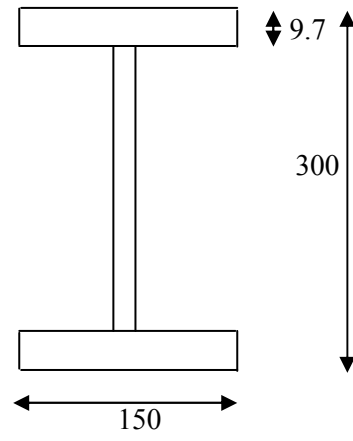

Figure 10
- Q.5 (a)** The vertical shear action on a channel section is 150 KN. Find the shear flow and shear center of the section as shown in figure 10. Assume thickness in flange as 9.7 mm and thickness of web 6.7 mm. $I = 71.97 \times 10^6 \text{ mm}^4$ **07**